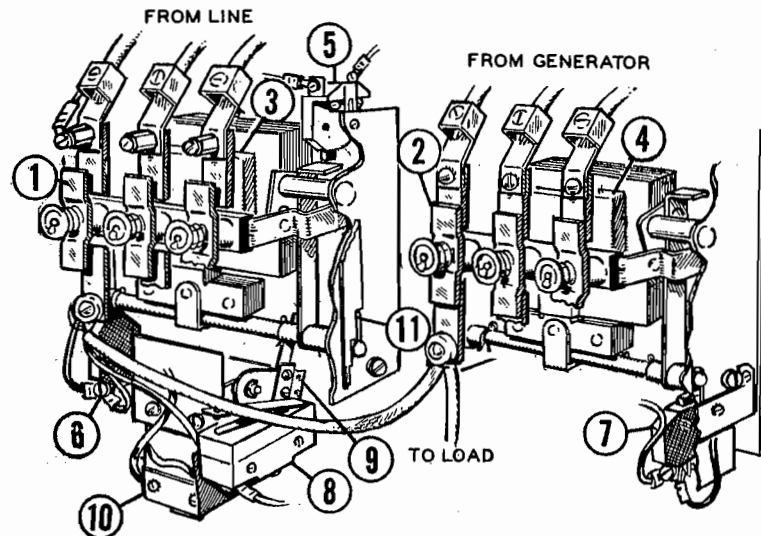

FIGURE 3. TRANSFER SWITCH DURING POWER OUTAGE
When a power outage occurs, the automatic transfer switch control section starts the generating set. Simultaneously, the instant-transfer relay closes. As the generating set builds up speed and voltage, current flows through the latch disconnect coil (10). See Figure 3. This disengages the latch which allows the line contacts (1) to open. When the line contacts open, they in turn open switch (5) which disconnects power from the latch coil and closes switch (6), the electrical interlock switch.